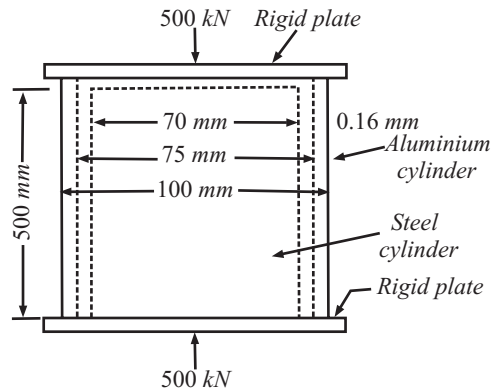

Fig 14.40
Q. 54: A solid steel cylinder 500 mm long and 70 mm diameter is placed inside an aluminium cylinder having 75 mm inside diameter and 100 mm outside diameter. The aluminium cylinder is 0.16 mm longer than the steel cylinder. An axial load of 500kN is applied to the bar and cylinder through rigid cover plates as shown in Fig. 14.40. Find the stresses developed in the steel cylinder and aluminium tube. Assume for steel, $E = 220 \text{ GN/m}^2$ and for Al $E = 70 \text{ GN/m}^2$